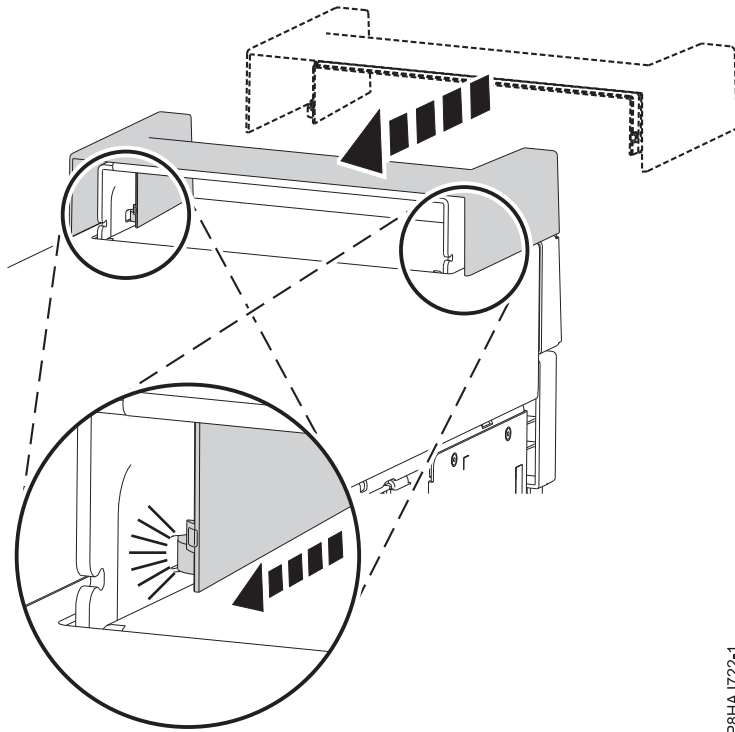

Figure 37. Securing the handle cover in an 8286-41A stand-alone system
1. Secure the handle cover to the internal RDX docking station (FC EUA3) by sliding it toward the rear of the system. See Figure 37.